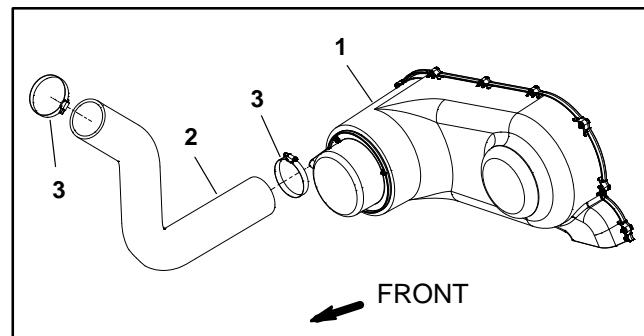

Figure 34
- Loosen hose clamps and remove CVT intake hose from ROPS cover and CVT enclosure cover (Fig. 34).
8. Install CVT intake hose to ROPS cover and CVT enclosure cover (Fig. 34). Secure intake hose with hose clamps.